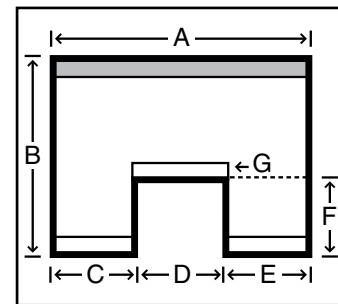

Figure 12 Bottom Cut Out
- Bottom cut out blinds (Figure 12) will have three bottom rails. Blinds will raise from "G" (Figure 12) to head rail.